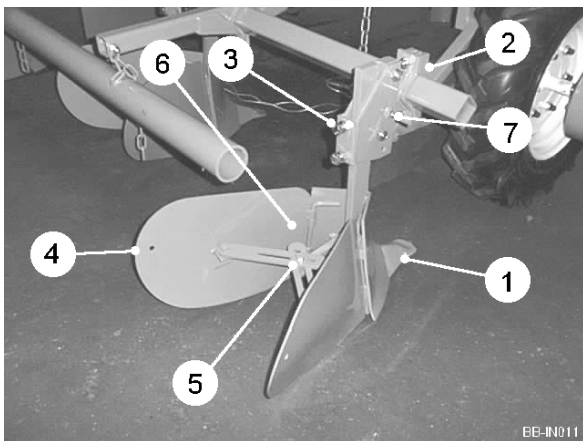

Fig 16
The ridger bodies (item 1, fig 16) create the sides of the bed. The ridgers are positioned by loosening the retaining bolts (item 2, fig 16) and sliding the units along the tool bar. The height of each ridger is adjusted by loosening the clamp bolts (item 3, fig 16) and then raising or lowering the unit. The pitch of the ridger bodies can be altered in the same way. To adjust, loosen one bolt and then tighten the other. Which bolt to tighten and which to loosen depends on the required direction of tilt.
The wings (item 4, fig 16) are adjustable to provide additional control of the soil flow. To adjust, loosen the retaining bolt (item 5, fig 16) and pull the wings out equally.
Each ridger body is protected by a shear bolt (item 7, fig 16). If the ridger hits an obstruction the bolt will break allowing the ridger to swing backwards preventing serious damage to the machine.